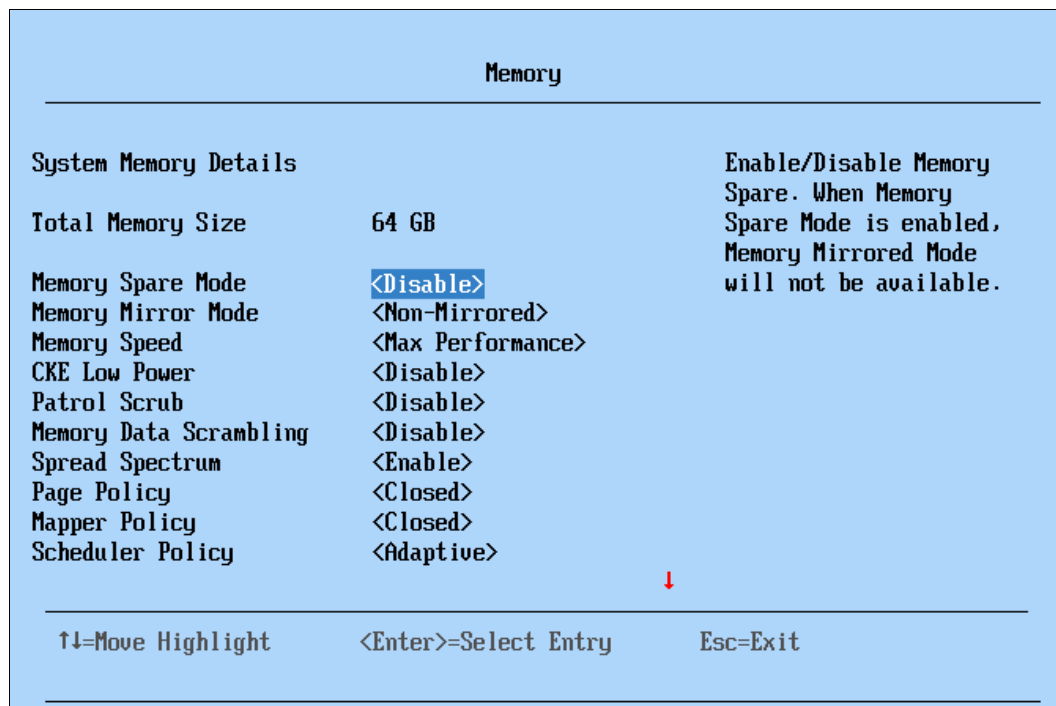

Figure 6-6 The memory configuration panel in F1-Setup
2. From the System Configuration panel, select **System Settings** → **Memory**. See Figure 6-6.
Figure 6-6 on page 229 shows the Memory configuration panel with your choice of performing memory sparing (Memory Spare Mode) or memory mirroring (memory mirror mode), but not both options at the same time. Select the desired option and reboot the server. If your memory population order does not support the requested option, the server reports a memory configuration error during the next reboot.